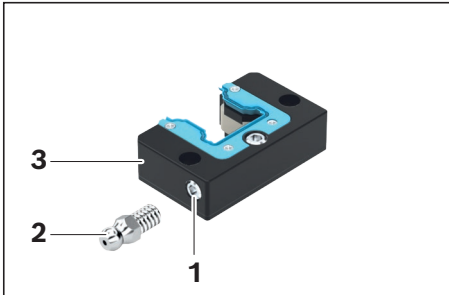
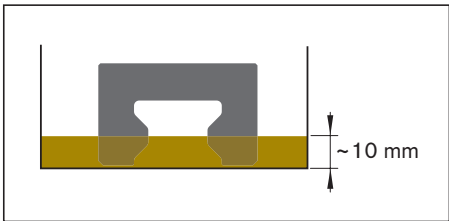

Figure 1
Figure 2
- ▶ Remove the set screw from the lube port (fig. 1, item 1) and keep for later use.
- ▶ Screw in lube nipple (2).
- ▶ Lie the front lube unit (3) down flat, fill with quantity of oil as per table 1, and leave it to lie for around 36 hours.
- ▶ For size 20 low profile: Put the front lube units in 10 mm of oil for approx. 36 hours (see fig. 2).
- ▶ The front lube unit size 20 low profile is not refillable via the lube connection (see figure 2).